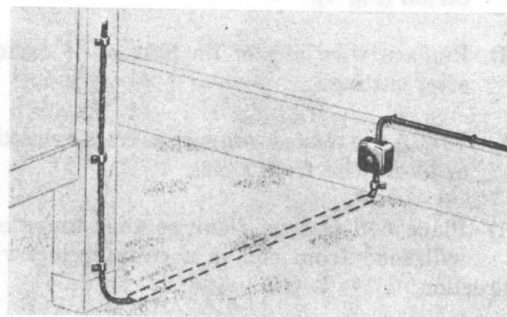

Fig. 6 — Placing Flat Rubber Cordage
6. Strip back, tape, and terminate conductors on a connecting block as shown in Fig. 6.